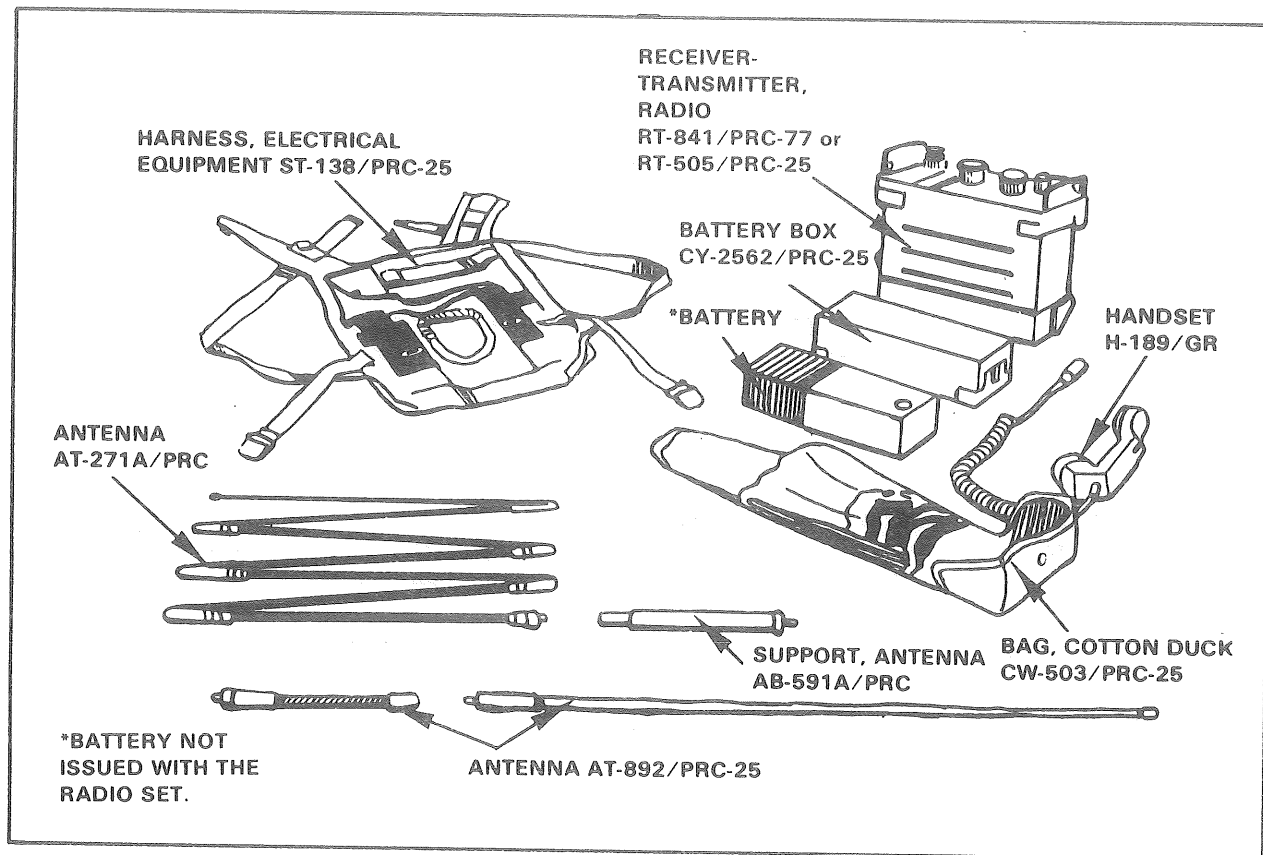

Figure 2. Components.
2. Assemble for manpack operation. (Refer to fig 2 and TM 11-5820-667-12, chap 2, para 2-5, pp 2-3 thru 2-5; or TM 11-5820-398-12, chap 2, para 2-5, pp 2-2 thru 2-4.)
- (1) Place the harness on a level surface with the metal braces facing up.
- (2) Place the receiver-transmitter on the harness with the front panel towards the top and the battery box resting in the metal braces.
- (3) Strap the receiver-transmitter to the harness with the retaining straps.
- (4) Clip the accessory bag (CW-503/PRC-25) to the loops on the upper retaining strap.
- b. Install the correct antenna. (Refer to fig 2 and TM 11-5820-667-12, chap 2, para 2-6, p 2-5; or TM 11-5820-398-12, chap 2, para 2-6, p 2-5.)
- (1) Use the AT-892/PRC-25 (short antenna) when maximum range is not required or when operating in densely foliated terrain.